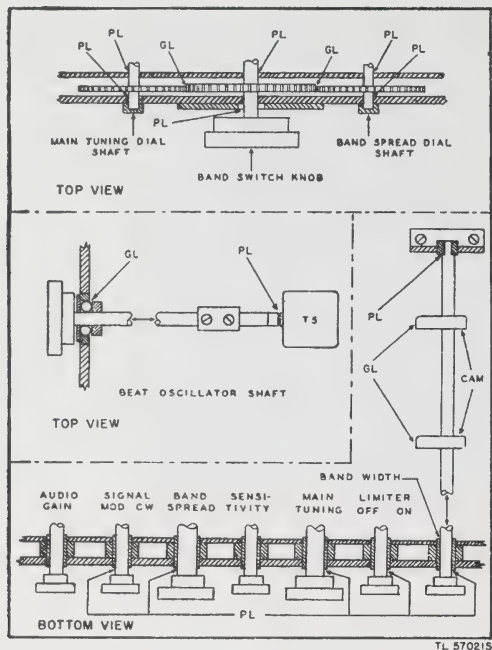

Figure 19. Receiver lubrication diagram.
a. The location of the points on the receivers requiring lubrication and the type of lubricant to be used are illustrated in figure 19. Lubrication is not required at any point not included in the illustration. The recommended lubricants are suitable for all temperatures at which these receivers are operated.